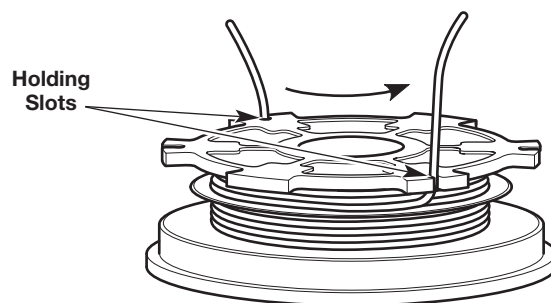

Fig. 19
3. Insert the two 6-inch ends into the two .080 holding slots (Fig. 19).
4. Insert the two 6-inch ends into the two .080 holding slots (Fig. 19).